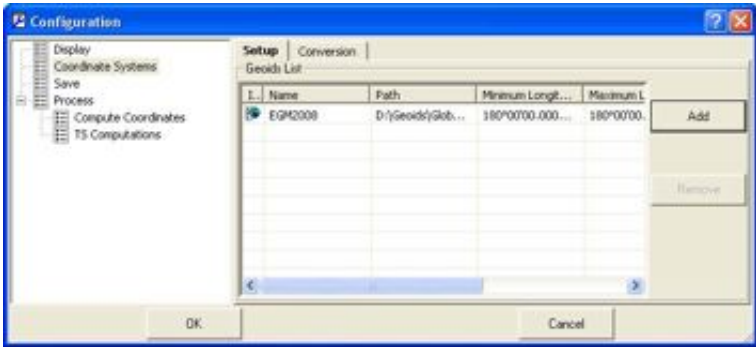

Figure 3-13. Select Geoid
3. The *Coordinate System* item displays the *Setup* and *Conversion* tabs in the right pane. In the *Setup* pane the user can view, add, or remove available geoid file (Figure 3-13). Click **Ok** to save and exit.